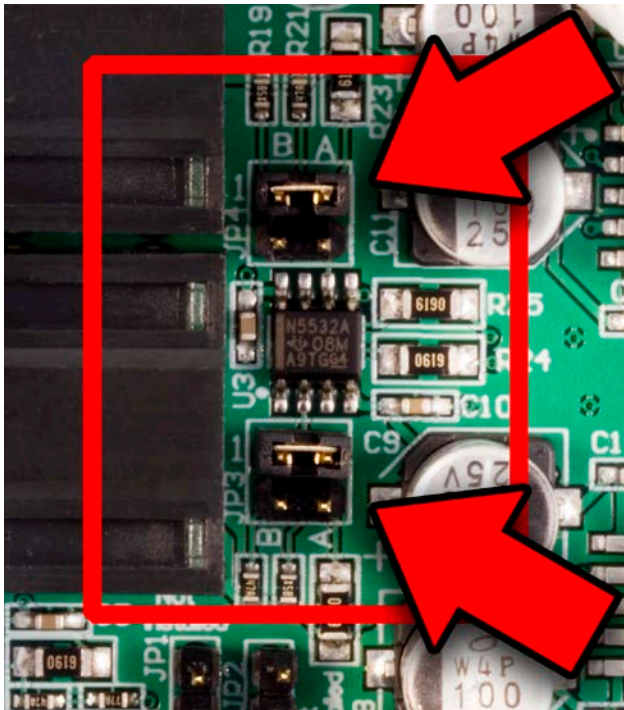

Figure 6 - 20 dB Headphone Attenuation
- **20 dB** attenuation - see **Figure 6**